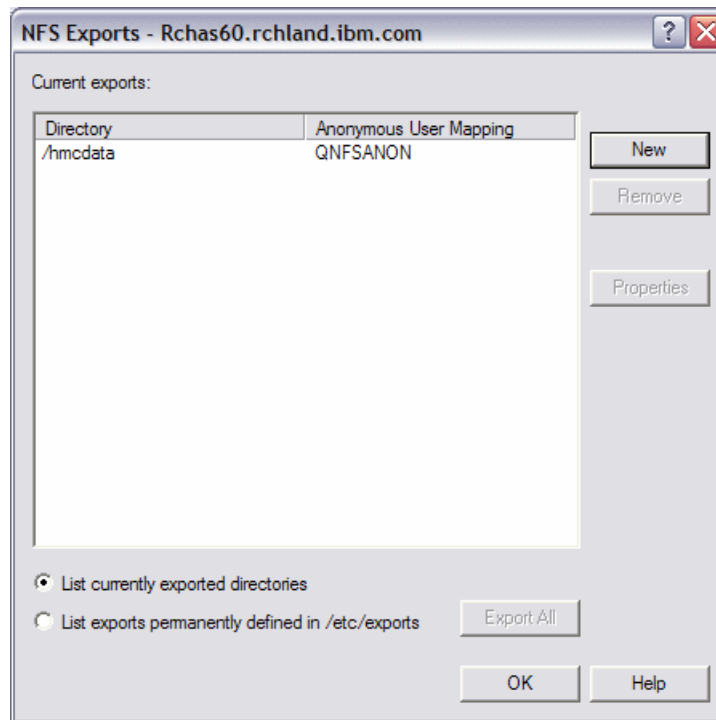

Figure A-7 NFS Exports
7. In the NFS Exports window, click **OK** (Figure A-7).